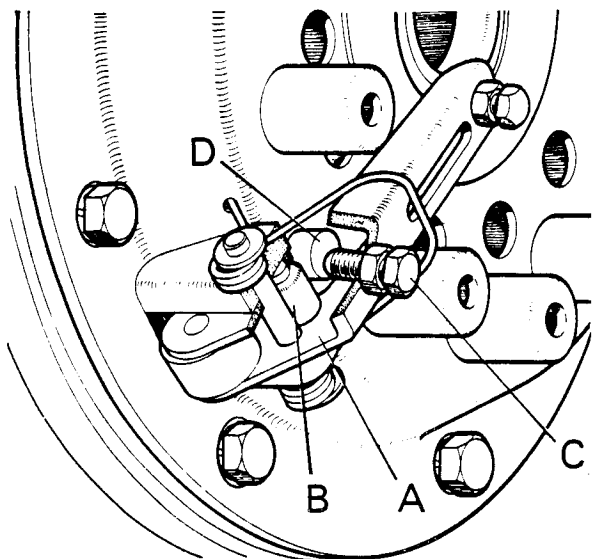

Figure 9.
- Turn engine until a release lever is opposite cover aperture then insert cranked end of feeler gauge through open heel of lever. (Fig. 9.) Pass end of gauge over roller and pin until it goes under the adjusting screw, then release locknut and, *taking care to note the number of flats the screw is turned*, tighten screw until it just commences to hold the gauge. Firmly tighten locknut, whilst holding screw stationary, and mark lever with chalk, so that it is not adjusted again if engine is turned too far. Reset remaining screws, *not by using the gauge but by turning the screws exactly the same amount as it was necessary to turn the first screw*. This is important as it ensures the plates and facings remain parallel.